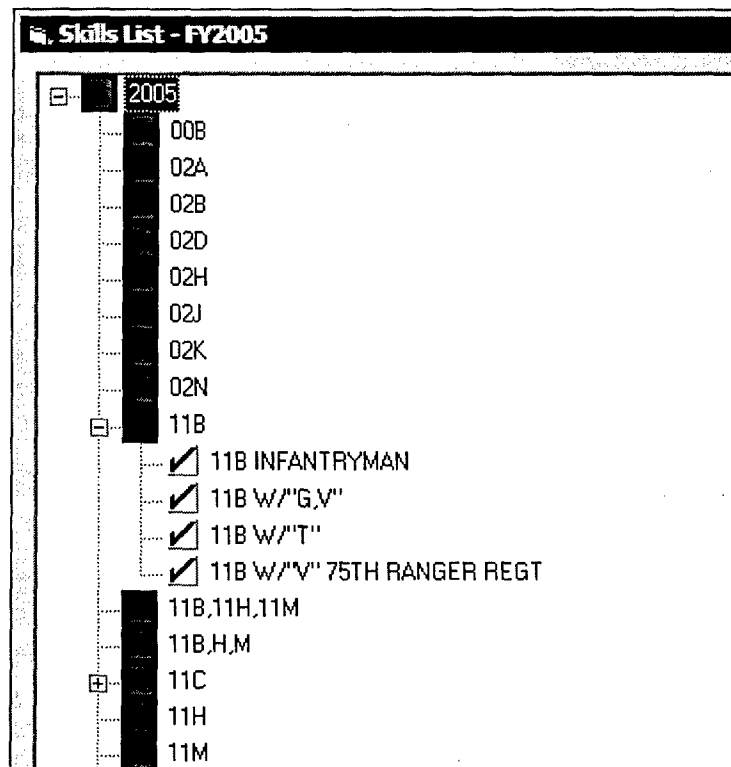

Figure 8. Expand Skill List
3. Click on a box to expand the display and show active skills. Figure 8 shows the expanded list for MOS 11B. The current list shows four active skills.